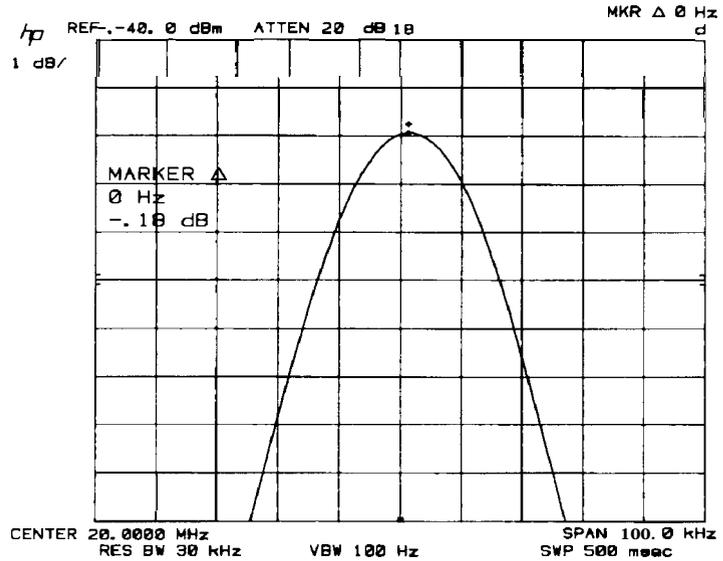

Figure 2-10. Attenuator Switching Uncertainty Measurement
7. Set **ATTEN**, **REFERENCE LEVEL**, and frequency synthesizer amplitude according to **Table 2-1 1**. At each setting, press MARKER **PEAK SEARCH** and record the deviation from the 10 dB setting from the MARKER A amplitude readout (see **Figure 2-10**). The deviation should not exceed ± 1.0 dB at any setting.